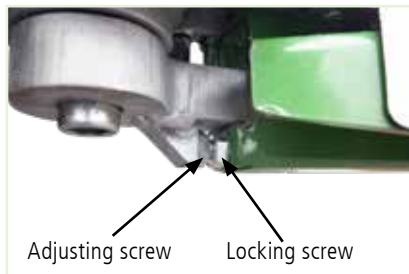

Fig. 13
- Check the lubrication of all ball bearings 24.0 (Fig. 13) and lubricate if necessary